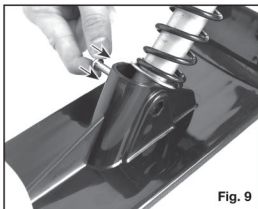

Fig. 9
10. Align the bolt hole on the steering unit's end and the holes on the front ski mount wall. (See Fig. 9)